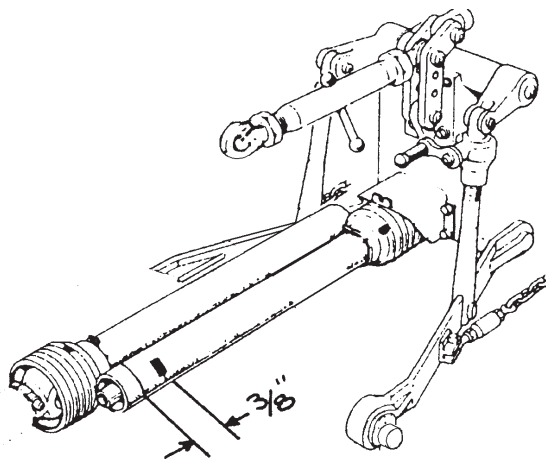

Figure 7
2. Lay the shaft sections side-by-side as shown in Figure 7. Mark the shield on the tractor end where it meets the shield cone on the mower end. Measure  $3/8$ " back toward the tractor and make a second mark. (See **Figure 7**.)